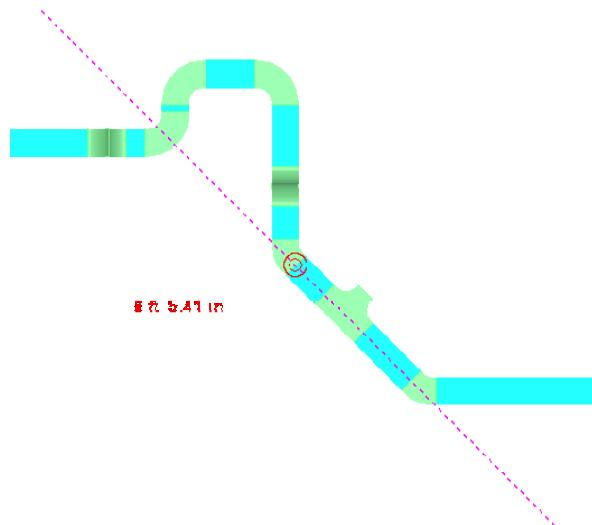

Figure 25: Placed Horizontal Tee
40. Key in **5 ft** in the **Distance** box on the **Point Along** ribbon for specifying the distance of the component from the referred **Cableway End Feature**. The view of the horizontal tee in the graphic view should resemble Figure 25.